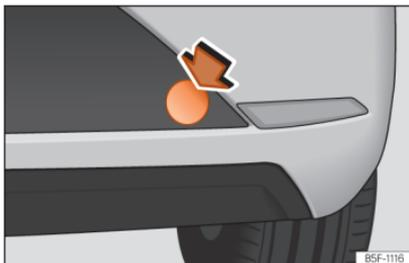

Fig. 102 Right side of the rear bumper: cover-cap.
- To open the cover, press the top right side »» Fig. 102.